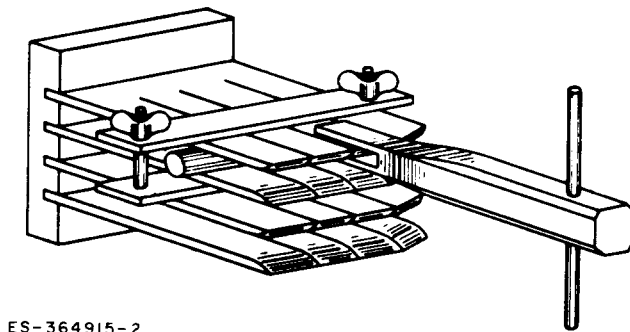

Fig. 7—Contact Clip Adjustment
- (3) When the amount of adjustment is small, a bending tool constructed on the job similar to the tool in Fig. 7 may be used.
- (4) On laminated switches, it will be found that the inner clips can be adjusted by inserting